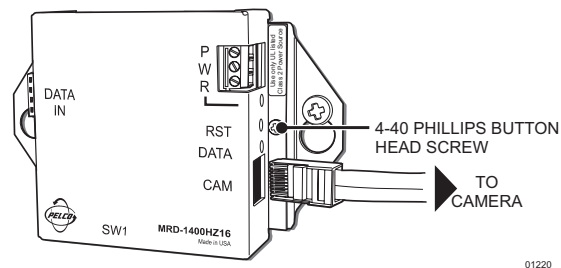

Figure 2. Wall Mounting
To mount the MRD1400HZ16 directly to a wall, refer to Figure 2 and do the following:
- a. Unscrew the two Phillips button head screws from the unit (refer to Figure 2), and remove the cover. Discard the screws.
- a. Unscrew the two Phillips button head screws from the unit (refer to Figure 2), and remove the cover.